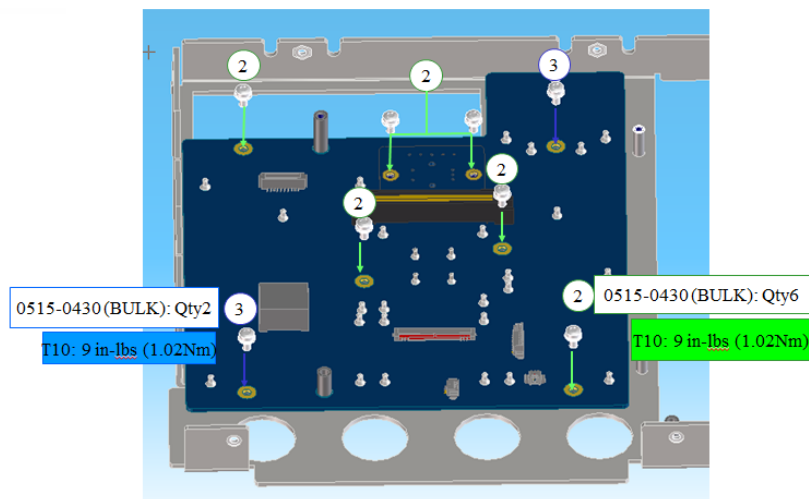

Figure 1-1
1. Install the keyboard on the new front panel sub as shown in figure 1-1.